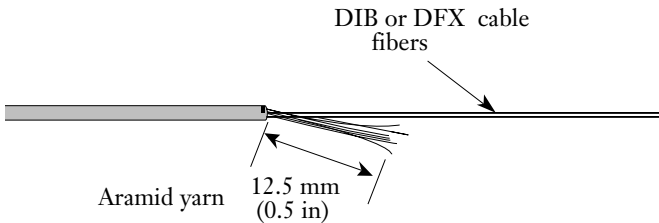

Figure 4
5.4 Use scissors to cut the aramid yarn to a length of 12.5 mm (0.5 in) (Figure 4).